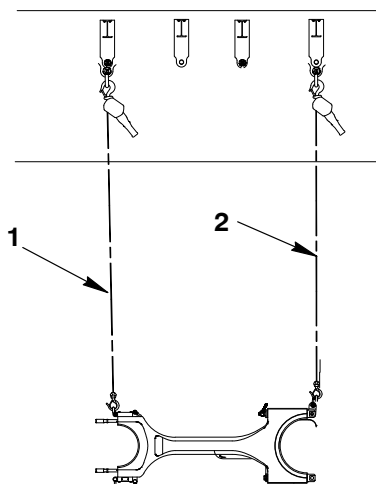

Fig.8
- 1) Lower the connecting rod to the floor (see Fig. 8).